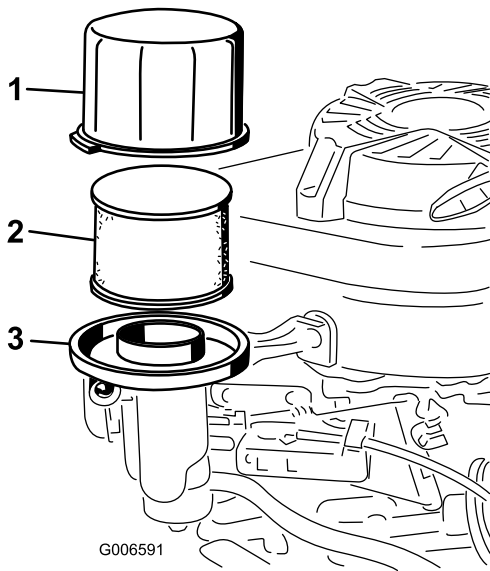

Figure 24
3. Remove the cover and clean it thoroughly (Figure 24).
4. Remove the foam pre-filter and paper filter (Figure 24).
5. Remove the foam pre-filter from the paper filter (Figure 24), and replace the paper filter if it is excessively dirty.
6. Tip the machine, with the air filter up, to drain the oil into the drain pan (Figure 24).